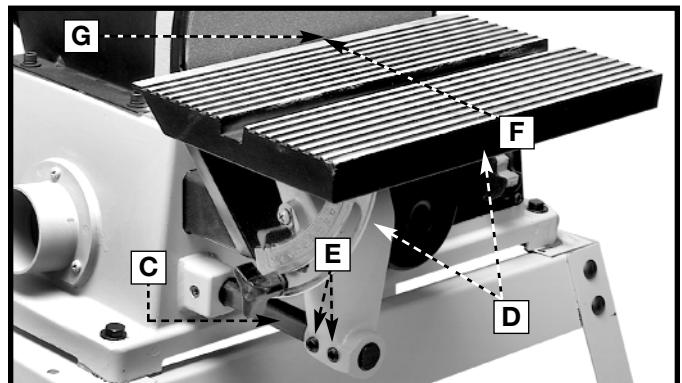

Fig. 15
2. Slide the table assembly (D) Fig. 15 on the rod (A). Align the flat on the rod (A) with the set screws (E). Tighten the screws to hold table assembly (D) in position.
To avoid trapping the work or fingers between sanding disc and table, the table edge (F) Fig. 15 should be positioned a maximum of 1/16" away from sanding disc (G). Loosen screws (E) and adjust table accordingly.